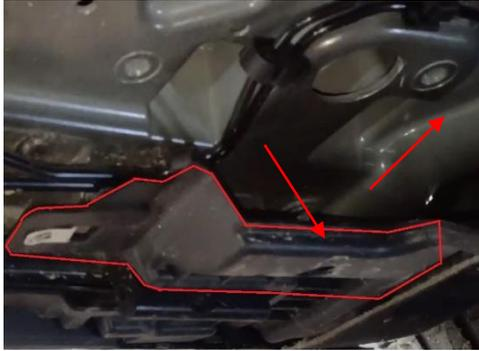

Figure 2
**Step 3:** Trim and dispose of the highlighted area Figure 2. This procedure will expose the front mounting location. You do not have to remove the panel. Trim in place.